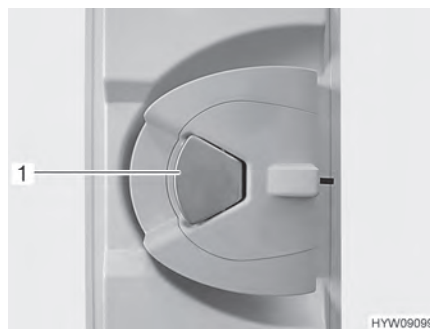

Fig. 30 Door lock (conversion door, inside)
Opening: ■ When the door lock is locked: Pull once at the door handle (Fig. 30,1). The door is unlocked.
■ Pull on the door handle (Fig. 30,1). The door is open.
Locking: ■ Push the door handle (Fig. 30,1).